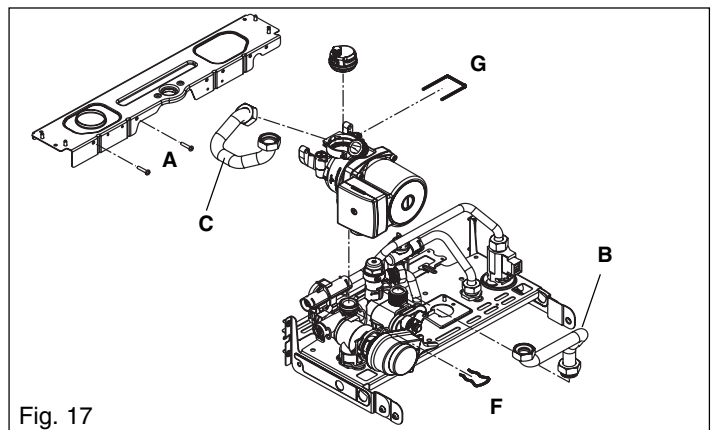

Fig. 17
### 6.5 PUMP ASSEMBLY (fig. 17)
- refer to fig. 17, disconnect and remove items A, B & C
#### 6.7 AUTOMATIC AIR RELEASE VALVE (fig. 17, AAV)